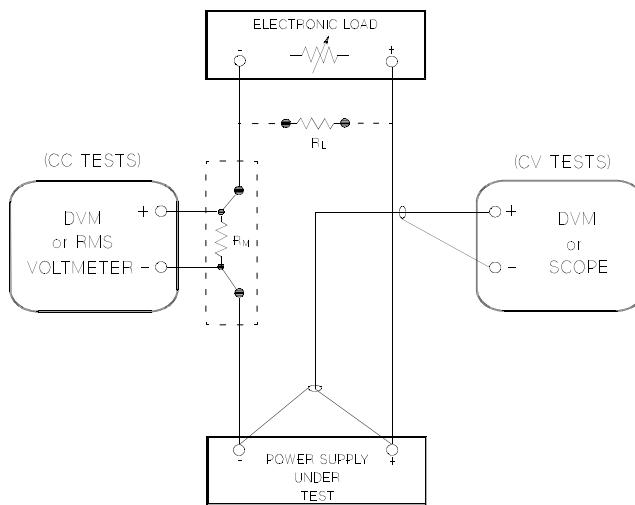

Figure 3-1. Performance Verification Test Setup
To eliminate output current measurement error caused by the voltage drops in the leads and connections, connect the current monitoring resistor between the (-) output terminal and the load as a four-terminal device. Connect the current-monitoring leads inside the load-lead connections directly at the monitoring points on the resistor element (see R_M in Figure 3-1).
- 1 Turn off the power supply and connect a digital voltmeter between the (+) and (-) terminals of the output to be tested as shown in Figure 3-1.
- 4 Operate the electronic load in open mode (input off). Record the output voltage reading on the digital voltmeter again. The difference between the digital voltmeter readings in steps (3) and (4) is the CV load regulation. The difference of the readings should be within the limit specified below for each output tested.
- 6 Adjust the autotransformer to high line voltage (127 Vac for nominal 115 Vac, 110 Vac for nominal 100 Vac, or 253 Vac for nominal 230 Vac). Record the voltage reading on the digital voltmeter. The difference between the digital voltmeter readings in steps (5) and (6) is the CV line regulation. The difference of the readings should be within the limit specified below for each output tested.
- 1 Turn off the power supply and connect the output to be tested as shown in Figure 3-1 to an oscilloscope (ac coupled) between (+) and (-) terminals. Set the oscilloscope to AC mode and bandwidth limit to 20 MHz. Connect a resistive load (1.2Ω for +6V supply and 25Ω for ± 25 V supplies) as shown in Figure 3-1 (see Table 3-2).
- 6 Repeat steps (1) through (5) for the remaining outputs.